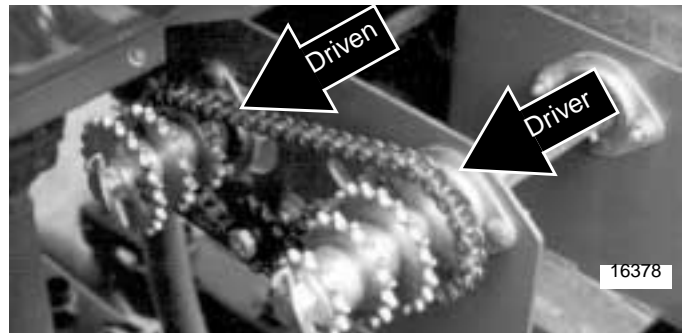

Figure 3-3
3. To change driver/driven ratio, refer to Figure 3-3.. Loosen and slide idler sprockets out of chain. Remove lynch pins from shafts. Place correct sprockets on shafts. Store sprockets not used on ends of shafts. Reinstall chain and slide idlers back into place so chain has 6 mm (1/4-inch) slack.